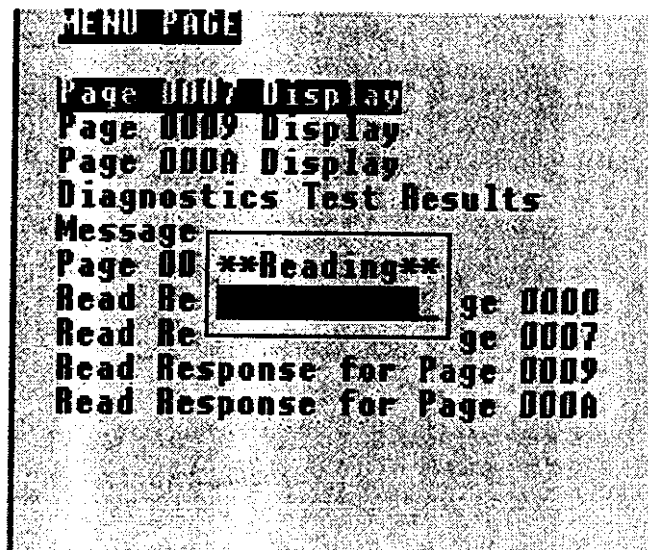

Figure 7 "Reading" Displayed on Menu Screen During Transponder Read
4. Watch menu screen for “Reading” display (Figure 7). When “Reading Done” is displayed (Figure 8), user can review patron transponder record. Keep hand held reader, with upper trigger depressed, aimed at transponder until “Reading Done” is displayed. Transponder reading takes approximately two seconds.